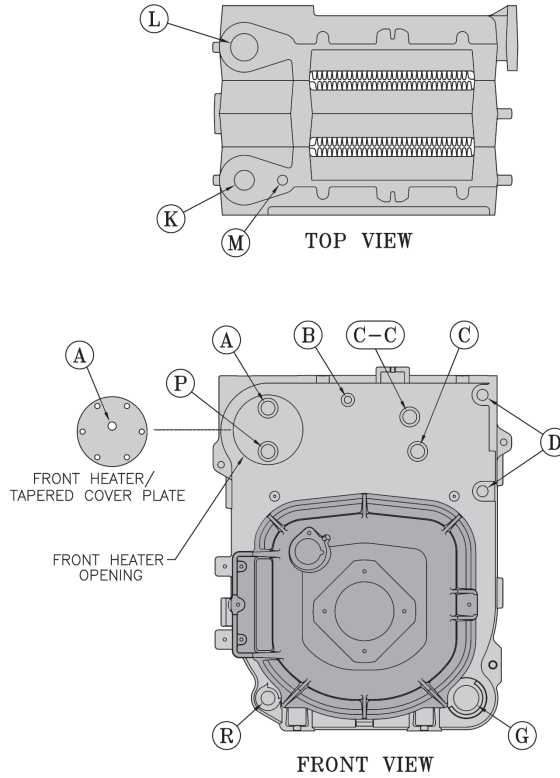

Figure 5: Boiler Tapping Locations and Usage (Knockdown Boilers Only)
Remove gauge, valve and plugs from those tappings to be used. Leave other tappings plugged or bushed according to Figure 5.
I. INSTALL TRIM. The following water trim will be concealed or inaccessible after boiler jacket is installed, see Figure 5 for boiler tapping locations and usage.
2. Lower front section tapping "G" is used for standard return on water boilers, see Figure 5. If circulator (supplied with boiler) is to be